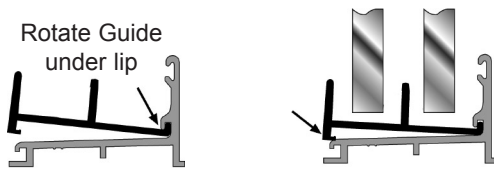
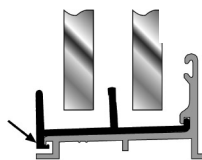

Figure 10B
Figure 10C
- D. Press the Bottom Track Guide (#10) onto the Bottom Track/Curb (#2) and lock it into position by pressing firmly on the back edge of the Bottom Track Guide (#10) as shown in Figure 10B. You should feel it lock into place. If the Bottom Track Guide (#10) doesn't lock into position easily, it may be necessary to press firmly on one end to start the process and work along the back of the Bottom Track Guide (#10) in order to lock it into place (See Figure 10C).